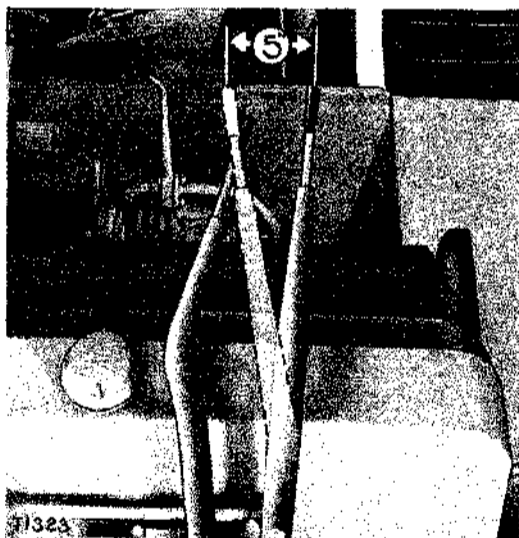

FIGURE 10—FREE MOVEMENT
C. Clutch Adjustment. (See figures 10 and 11.)
- (1) Adjust the brake as instructed in paragraph 6,B.
- (2) Loosen the clamp (6).
- (3) Turn the adjusting screw (5) counter clockwise to tighten the clutch until there is a free movement between the "neutral" and "clutch engaged" position on the control lever of 5", more if desired, but never less than 5".